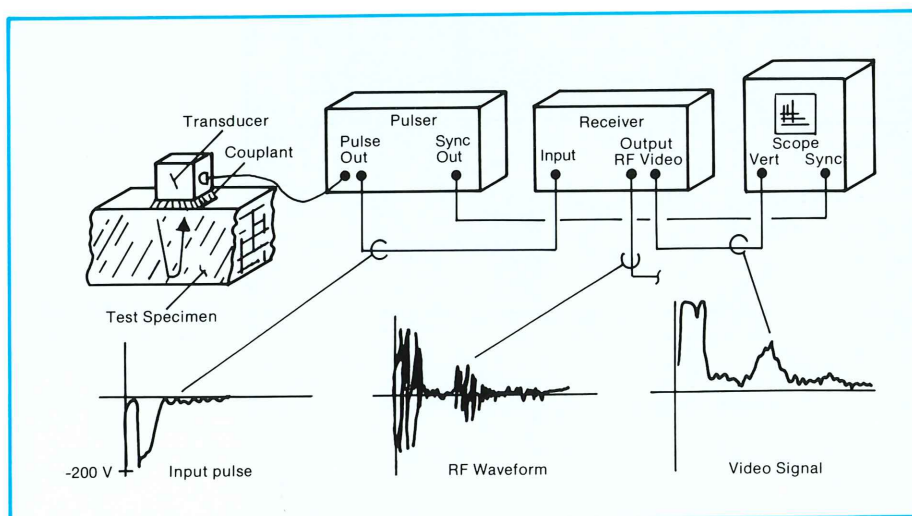

Fig. 3. Simplified pulse-echo system.
The transducer is coupled to the test surface by means of a thin layer of liquid. When the transducer is stimulated by a high-energy pulser voltage, it converts electrical energy into mechanical oscillations by the piezoelectric effect. A compressional waveform then passes into and through the material to the opposite surface where it is reflected back to the transducer. The transducer converts this vibratory energy into a high-frequency (RF) electrical signal which is passed into the receiver for detection, amplification, and filtering. The resulting video signal contains a truncated main excitation pulse and the reflected wave. A simplified pulse-echo system is shown in Figure 3.
Pulser. The pulser, a model PG062, supplies a square wave pulse of adjustable width and level. The pulse width is normally adjusted to 0.5 microseconds (half the period of the 1.0-MHz signal the transducer is tuned to, because a full cycle would damp the return signal). A negative square wave pulse adjustable from 50 to 300 V peak into 50 ohms is supplied to the transducer/receiver interface as shown in Figure 3.